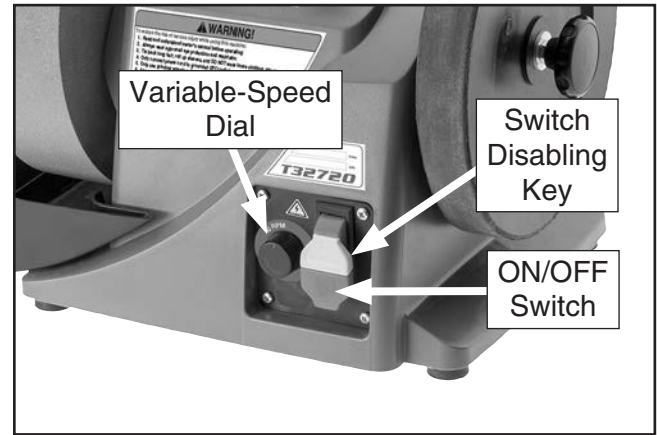

Figure 12. Control panel components.
2. Turn variable-speed dial all the way counter-clockwise and make sure ON/OFF switch is in OFF position (see **Figure 12**).
4. Move ON/OFF switch up to turn machine **ON** (see **Figure 12**).
7. Remove switch disabling key (see **Figure 12**).